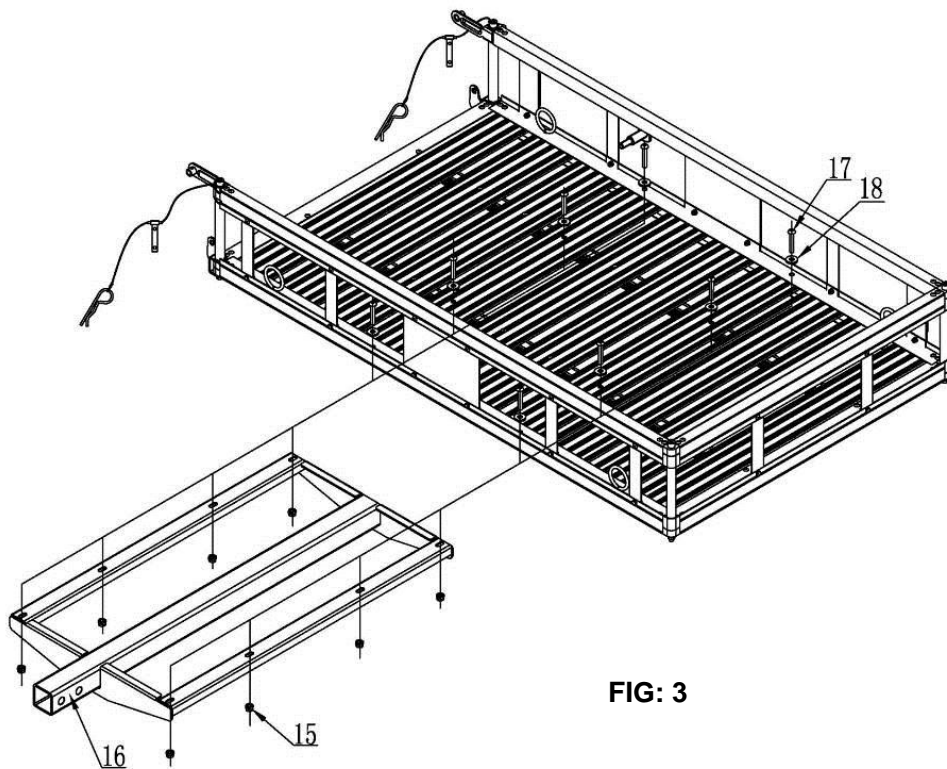

**FIG: 2**
2. Install longer hinge (12) to the upper corner piece of carrier, and then install the UL hinge (14) to the lower corner of the carrier, align the holes, put the support sleeve (13) in the middle of longer hinge (12) and UL hinge (14), align the holes, insert M8x215 allen bolt (10) through pin assembly (11), longer hinge (12), support sleeve (13) and UL hinge (14) with M8 lock nut (15) and then tighten. See FIG 2.